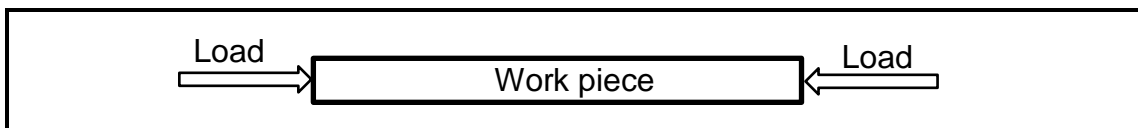

FIGURE 4.6
4.6 Identify the type of load applied to the work piece in FIGURE 4.6 below.